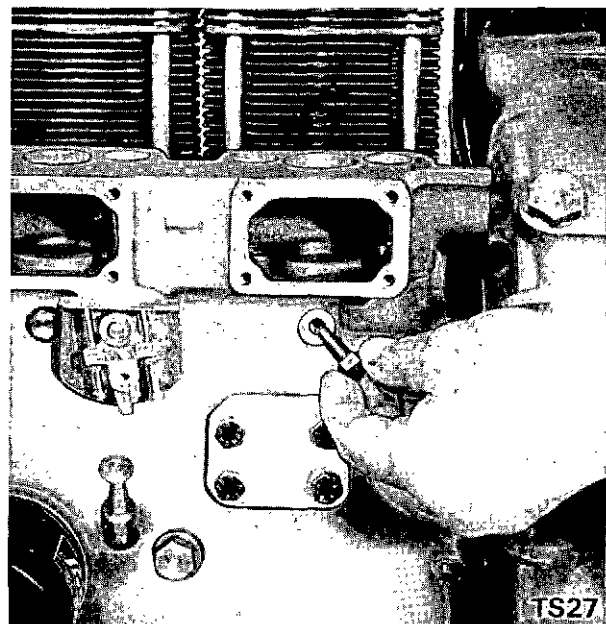

Fig. 85 Removing Fuel Pump Tappet Guide Screw
- (b) Remove guide locating screw, noting special end that fits into the drilling in the fuel pump tappet guide (Fig. 85)